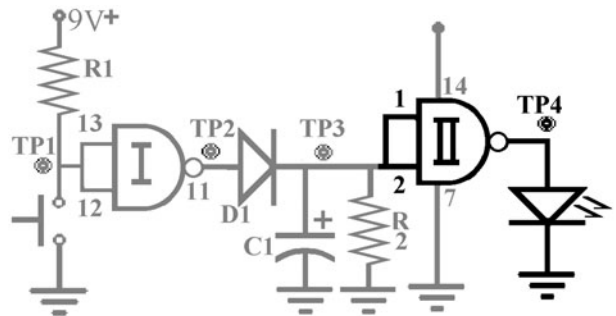

Figure L22-9
2. Connect the LED as shown in Figure L22-9.